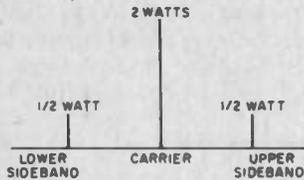

Fig. 3. The power distribution in an AM signal shows how much is wasted in the upper and lower sidebands.
**Puckered-Out Power.** To heap another indignity on old-time AM, let's see how much power it wastes. As shown in Fig. 3, if a CB transmitter is putting out 3 watts of RF power, then two watts fall to the carrier. The remaining watt then divides between the two sidebands. Thus, fully two-thirds of the transmitter RF power is lost. When the duplicate sidebands arrive at the receiver, they add their voltages so there's no power loss here. But even though both sidebands can be ultimately used in receiving, there's still a major disadvantage in transmitting upper and lower, as shown in a moment.